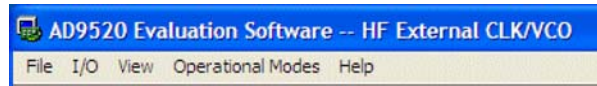
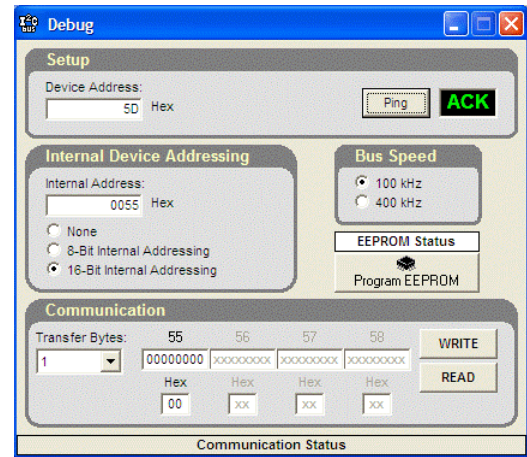

Figure 24. Menu Bar
Figure 29. Evaluation Software I²C Debug Window
7. From the **View** menu on the menu bar (see Figure 24), and select **Debug**. Click the **I²C Debug** button. The window shown in Figure 29 appears.
8. Enter the I²C address set by Jumper S5 and Jumper S6 on the AD9520 evaluation board, and click **Ping**. The user should see a green **ACK** message as shown in Figure 29. Repeat this step for the I²C address of the target AD9520. If **ACK** is returned for both addresses, the remote AD9520 is ready to be programmed. If the ping test fails, double-check the cabling between the boards, as well as the I²C address of the target AD9520. Ensure that the I²C address of the AD9520 on the evaluation board is different from the target AD9520. Also, disconnect the jumper cable, and make sure that I²C mode is working properly on the AD9520 evaluation board.